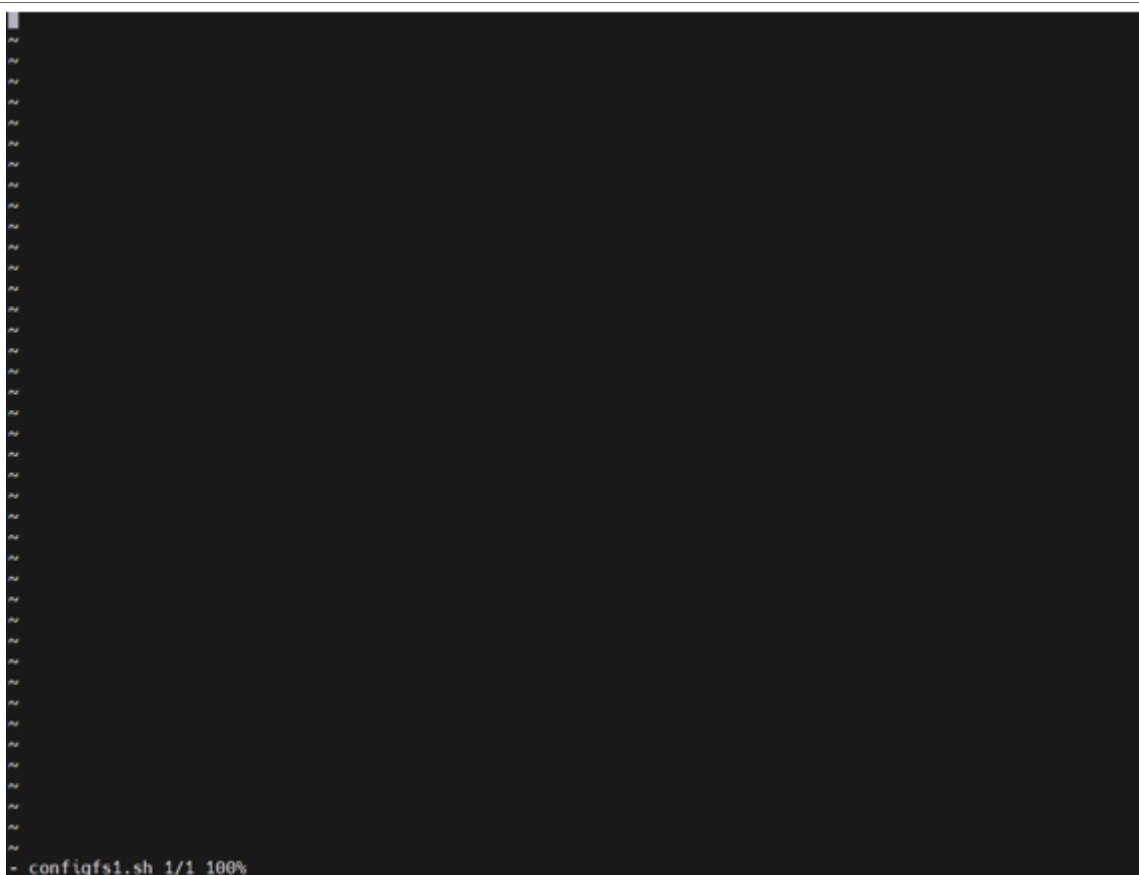

Figure 150. The interface
- ii. Enter the interface as shown in the Figure 150: